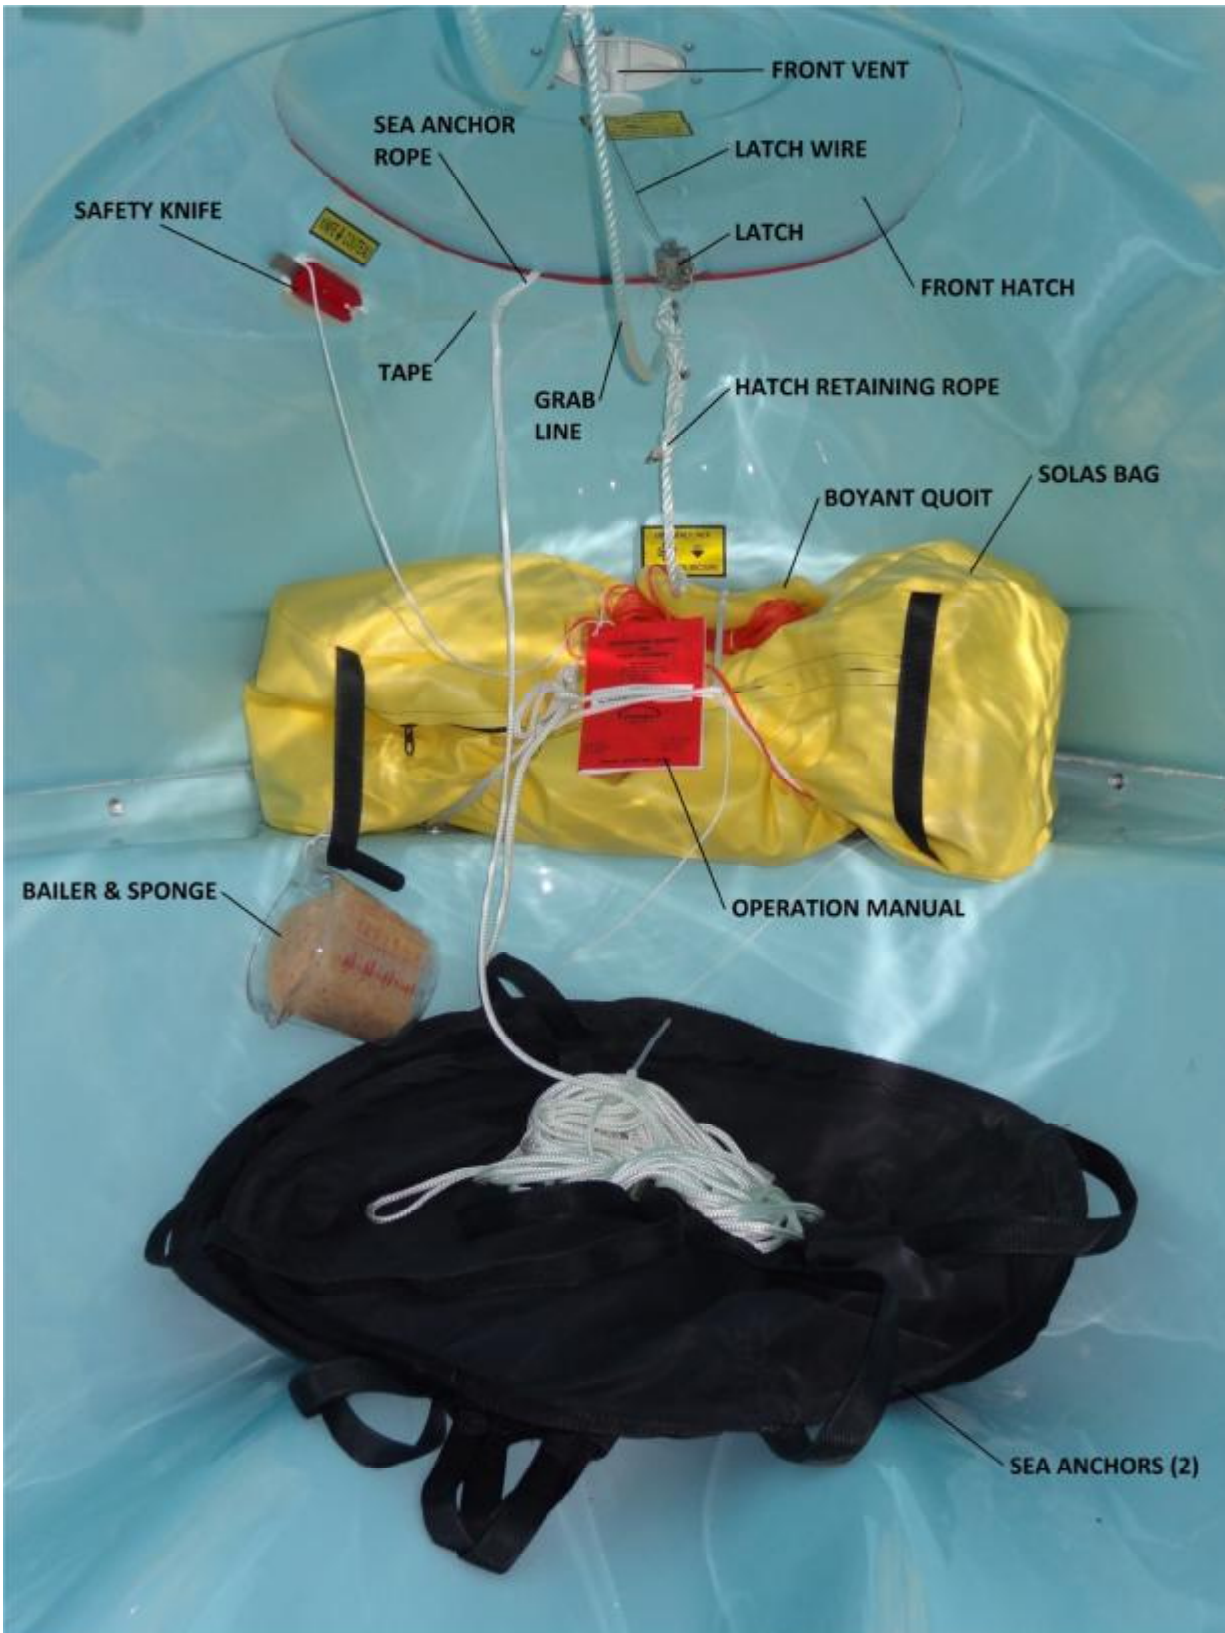

Fig.2
3.0.13 Interior components (Fig.2 & 3 & 5)
- Ø Confirm that the plastic bailer with sponge (Fig.2) is secured to a rope and tied to the stainless steel pad eye. Make sure it can't be damaged during boarding of the life raft.
- Ø Confirm that the red safety knife (Fig.2) is secured to a rope and attach to a stainless steel pad eye. It is on the interior wall of the life raft, near the front hatch. It's required to cut the painter line to free the life raft from the ship in distress.
- Ø Confirm that the buoyant quoit (Fig.2) is secured to a line and the other end should be attached to a stainless steel pad eye in the raft.
- Ø Confirm that the Operation manual (Fig.2) is secured to a rope and attach to the stainless steel pad eye at the front of the life raft.